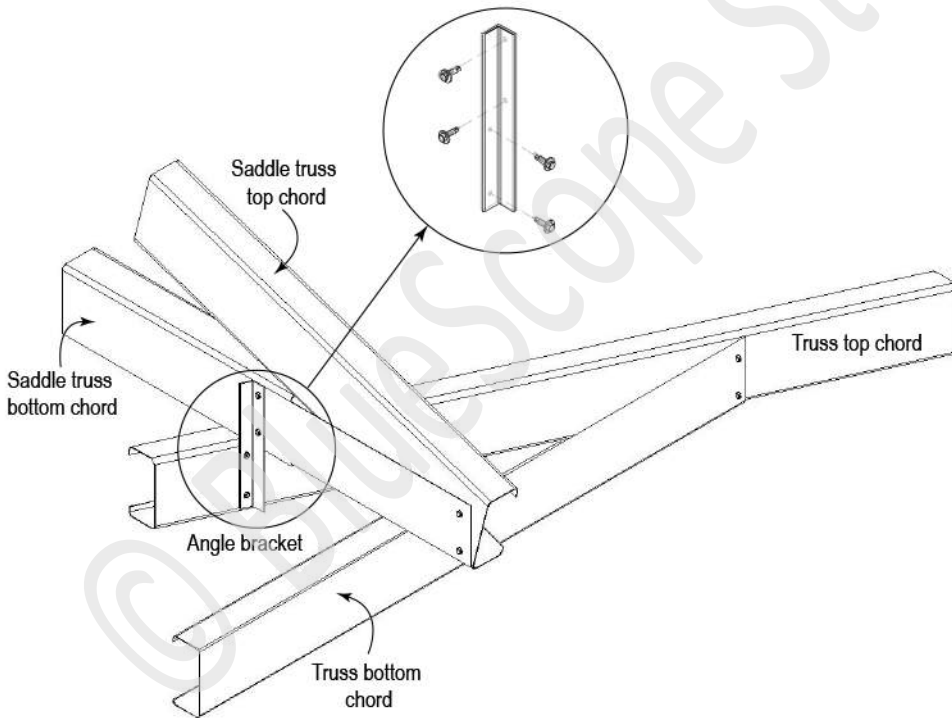

Figure 7.29c Saddle truss connection
**STEP 5:** Fix the bottom chord of the saddle trusses to the top chord of the underlying truss with an angle bracket as shown in Fig. 7.29c.